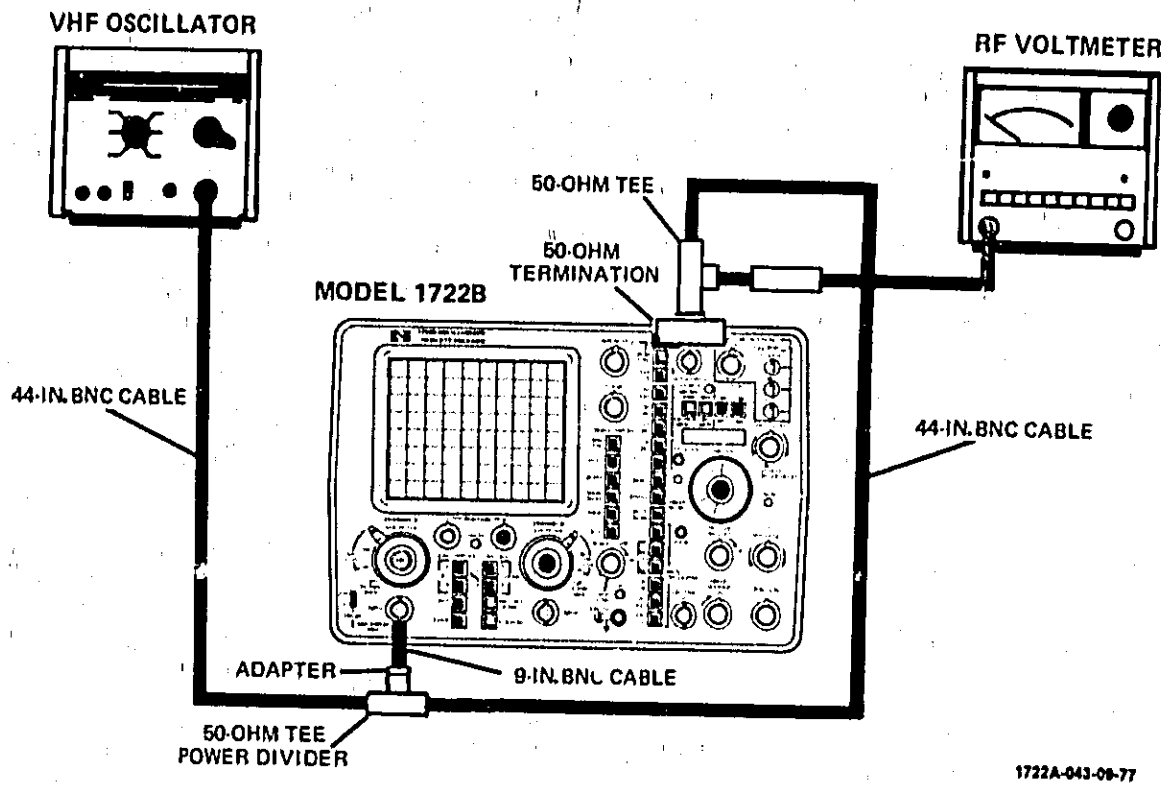

Figure 5-6. Delayed Triggering Test Setup
- s. Connect equipment as shown in figure 5-6.